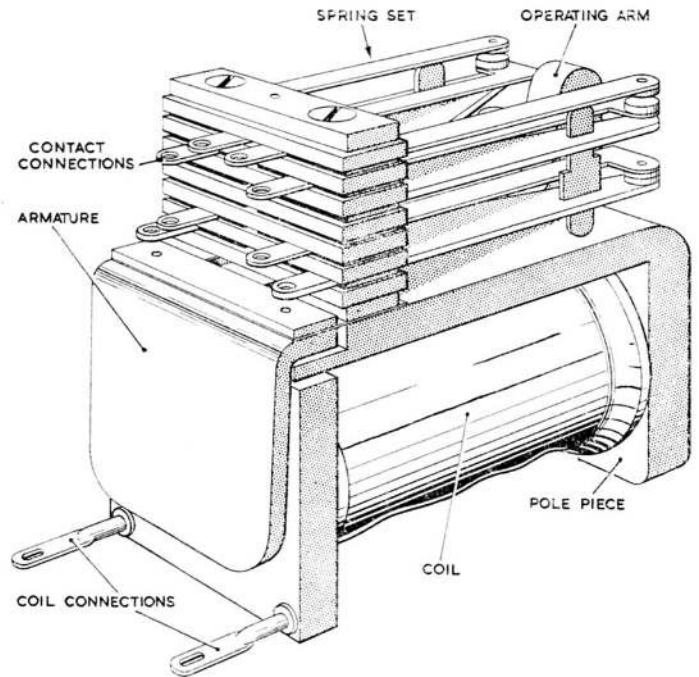

Fig. 1. Magnetic relay switch, Type M1101
2. The construction of the magnetic relay switch is illustrated in fig. 1. The pole-piece is L-shaped and reduced in thickness at the armature end to form a step into which the end of the armature fits. The armature is connected to the pole-piece by two leaf springs, and these enable the armature to move when the coil is energized. An extension on the armature passes along a slot in the long side of the pole-piece, and an operating arm, riveted to the armature extension, operates the moving springs of the relay.